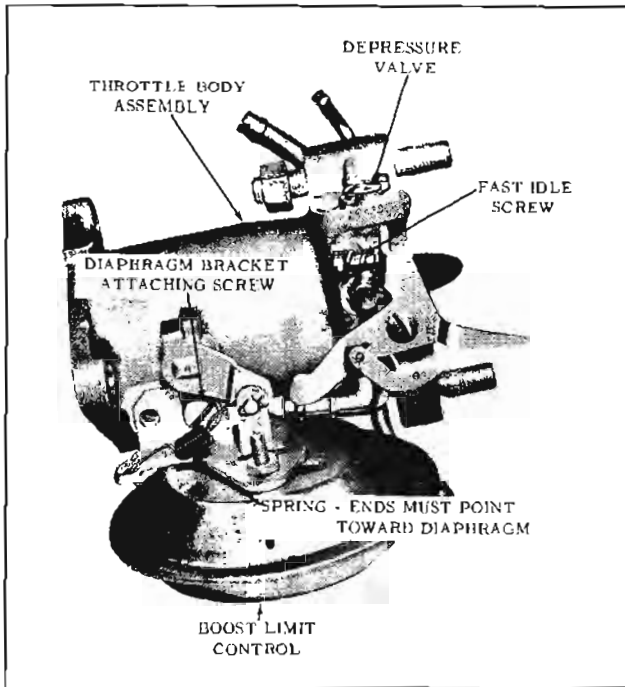

Fig. 9-119 Throttle Body Assembly
1. Remove depressure valve, diaphragm cover and diaphragm. (Fig. 9-119)
5. Fast idle screw in the throttle lever may be removed if replacement is necessary (Fig. 9-119).